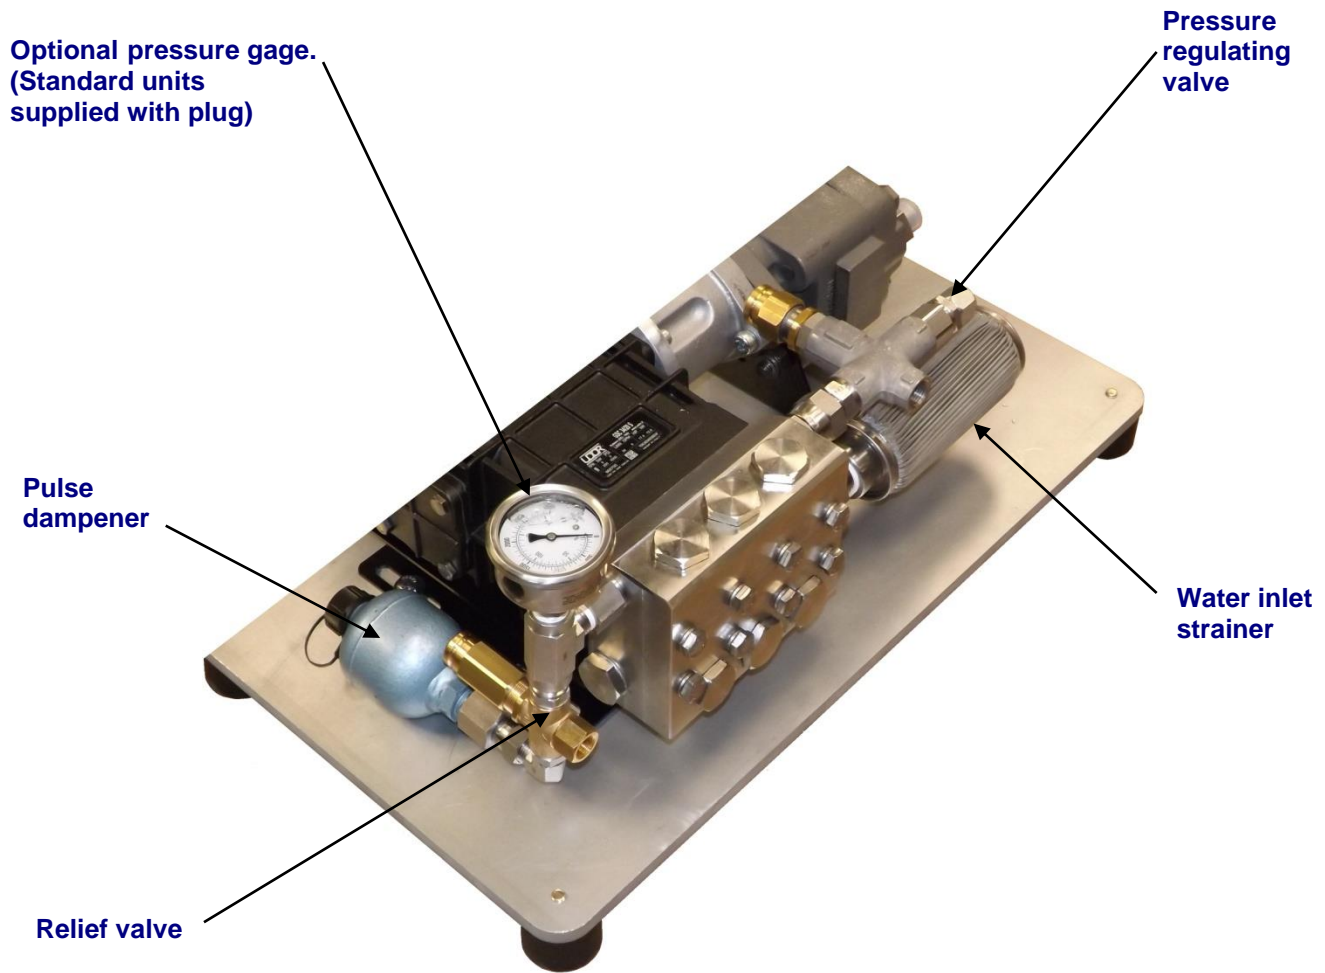

Figure 2.2 – CaviBlaster® 1030-ROV General Features
Figure 2.2 – CaviBlaster® 1030-ROV General Features.....	8
The first time a component is mentioned, it is typically followed by a figure reference; e.g., Water inlet strainer (See Figure 2.2). Figure numbers and section numbers are always coincident.
- 2) Inspect the water inlet strainer to ensure that it is not clogged (See Figure 2.2). Clean if necessary.